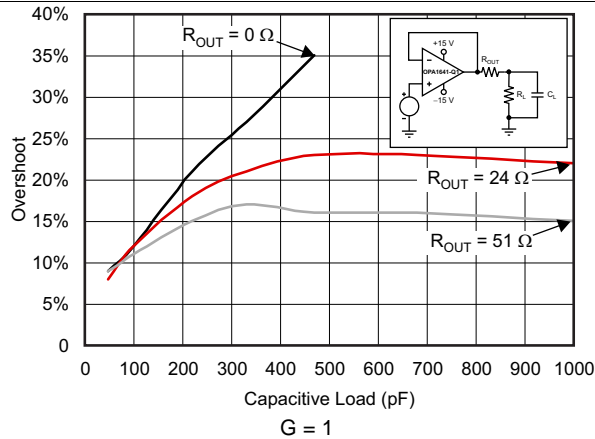
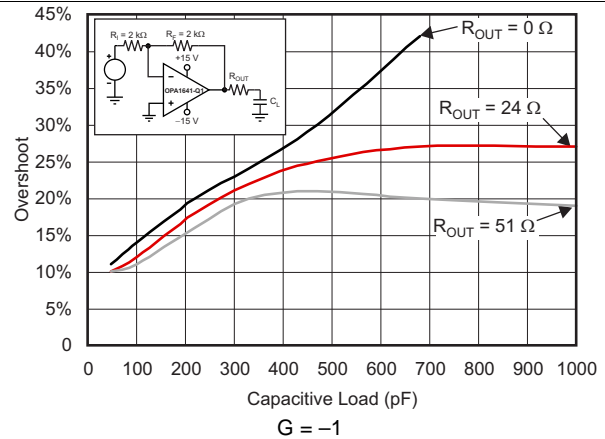

FIG 19. Small-Signal Overshoot vs Capacitive Load (100-mV Output Step)
FIG 20. Small-Signal Overshoot vs Capacitive Load (100-mV Output Step)
(1) Full power bandwidth =  $SR / (2\pi \times V_P)$ , where SR = slew rate.
(2) See Figure 19 and Figure 20.
Figure 19 and Figure 20 illustrate graphs of *Small-Signal Overshoot vs Capacitive Load* for several values of  $R_{OUT}$ . For details of analysis techniques and application circuits, see Feedback Plots Define Op Amp AC Performance available for download at [www.ti.com](http://www.ti.com)